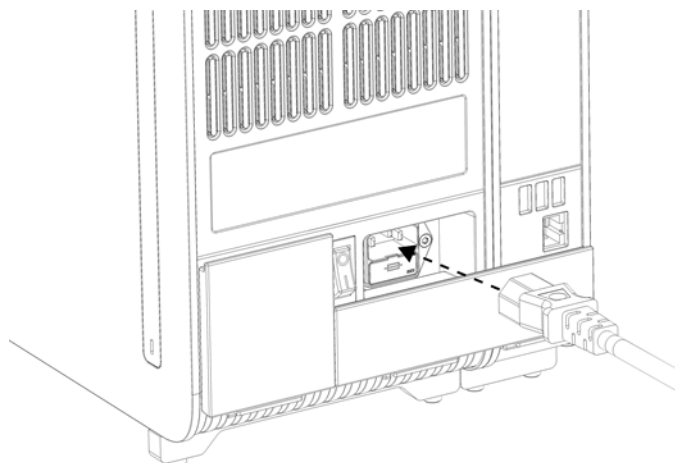

Figure 10. Connecting the power cord.
7. Connect the power cord that was delivered with the QIAstat-Dx Analyzer 2.0 to the back of the Analytical Module (Figure 10).